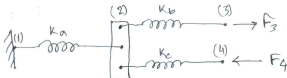

Figure 2
- b) Consider a 3-spring system as shown in **Figure 2**. Parameter values are $k_a = 500 \text{ N/m}$, $k_b = 100 \text{ N/m}$, $k_c = 250 \text{ N/m}$, $F_3 = 100 \text{ N}$, $F_4 = 50 \text{ N}$. Use Direct Stiffness method to compute deformation of all nodes. (15)